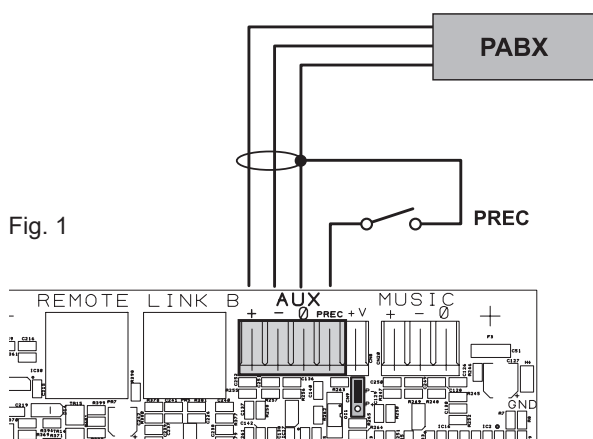

Fig. 1
The **AUX** terminals (14) are available for connecting auxiliary sources (e.g. a PABX or a base for announcements with a precedence contact). In the first case, to which Fig. 1 refers, it is necessary to fit a jumper onto connector CN9 in position "P-". In the second case, on the other hand, using a pre-amplified station of the MBT 1101 range, connection between the AUDIO OUT socket of the base and the AUX terminals has to be made as indicated in Table 1 and the jumper will have to be positioned on "P+".